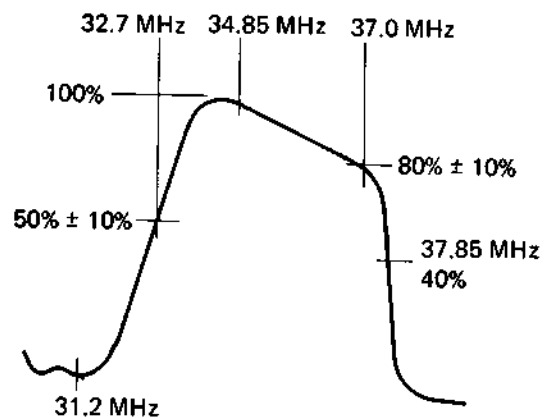

Fig. 3-6B SIF waveform
- 1) Connect generator probe to tuner test point as shown in Fig. 3-6B.
- 4) Vary the AGC voltage on TP14 and adjust HLB core (5) to minimize the 31.2 MHz marker.
- 7) Adjust HLB cores 1, 2 and 4 for same waveform as shown in Fig. 3-6B, 32.7 MHz marker 50% ± 10%, 37.0 MHz marker 80% ± 10% and 37.85 MHz marker 40% ± 10%.